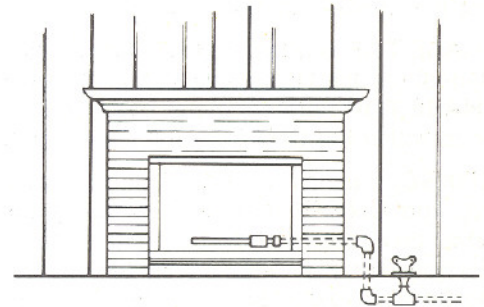

FIG. 1
- If installing a log lighter, use only a model having a valve designed for installation outside the fireplace. A removable key affords extra safety. (Such a model is shown in Fig. 1)